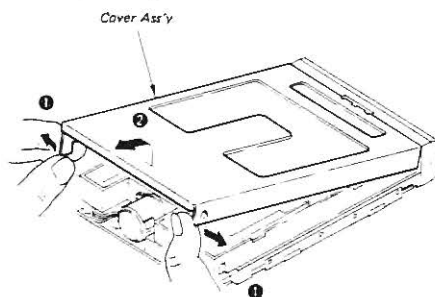

Fig. 4-1 Cover Ass'y Replacement
- a. Insert your finger into the rear right side portion of the Cover Ass'y as shown in Fig. 4-1, and dislocate the Cover Ass'y from the hook while applying some force to the direction marked with arrow. The whole Cover Ass'y can be taken out.
- a. Match the projection located in the front side of the Cover Ass'y with square hole of the front panel ass'y and then put the rear of the Cover Ass'y into the proper position. (Refer to Fig. 4-1)